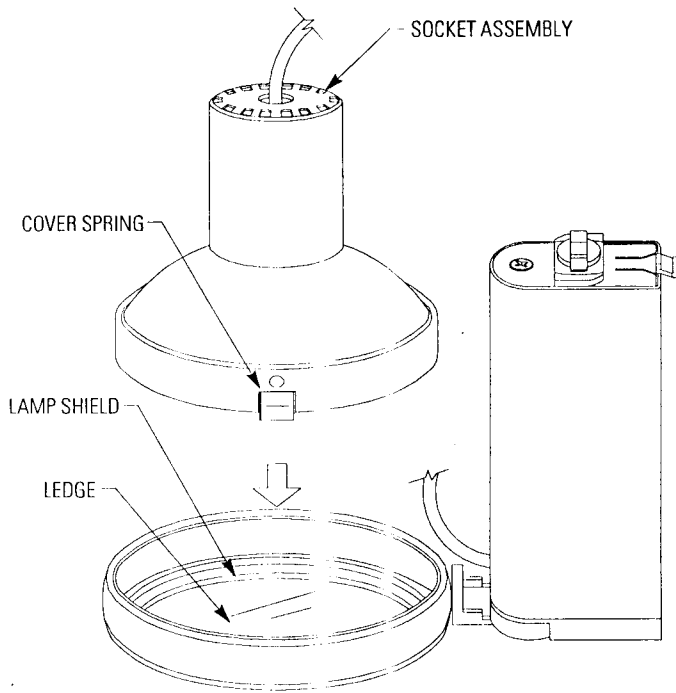

FIG. 6
3. Insert COVER with LAMP into RING until (3) COVER SPRINGS engage fully with the RING (Fig. 6).